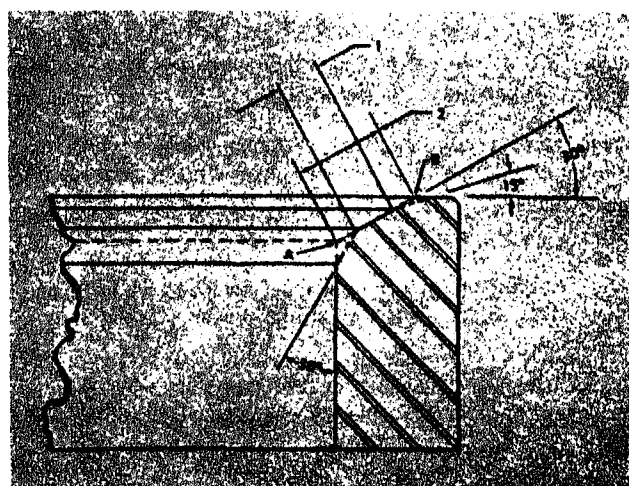

Fig. 2-3-4. Valve seat insert cross-section
5. Check valve seat width which should be  $\frac{1}{16}$  to  $\frac{1}{8}$  in. [1.5875/3.1750 mm]. See Fig. 2-3-4.